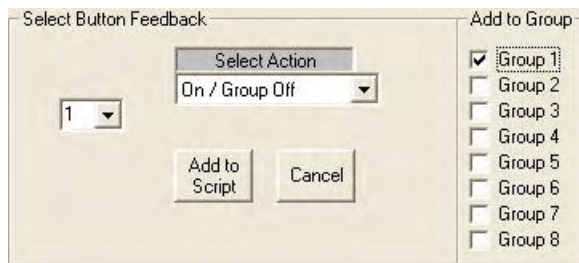

FIG. 24 Button Feedback - Button 1, On / Group Off, Group 1
The *On / Group Off* Button Feedback option allows you to assign feedback to a Group, so that only one of the group may be illuminated at a time (FIG. 24).
4. From the *Select Action* drop-down menu, select **On/ Group Off**, and click **Group1** under **Add To Group** (as shown in FIG. 24).